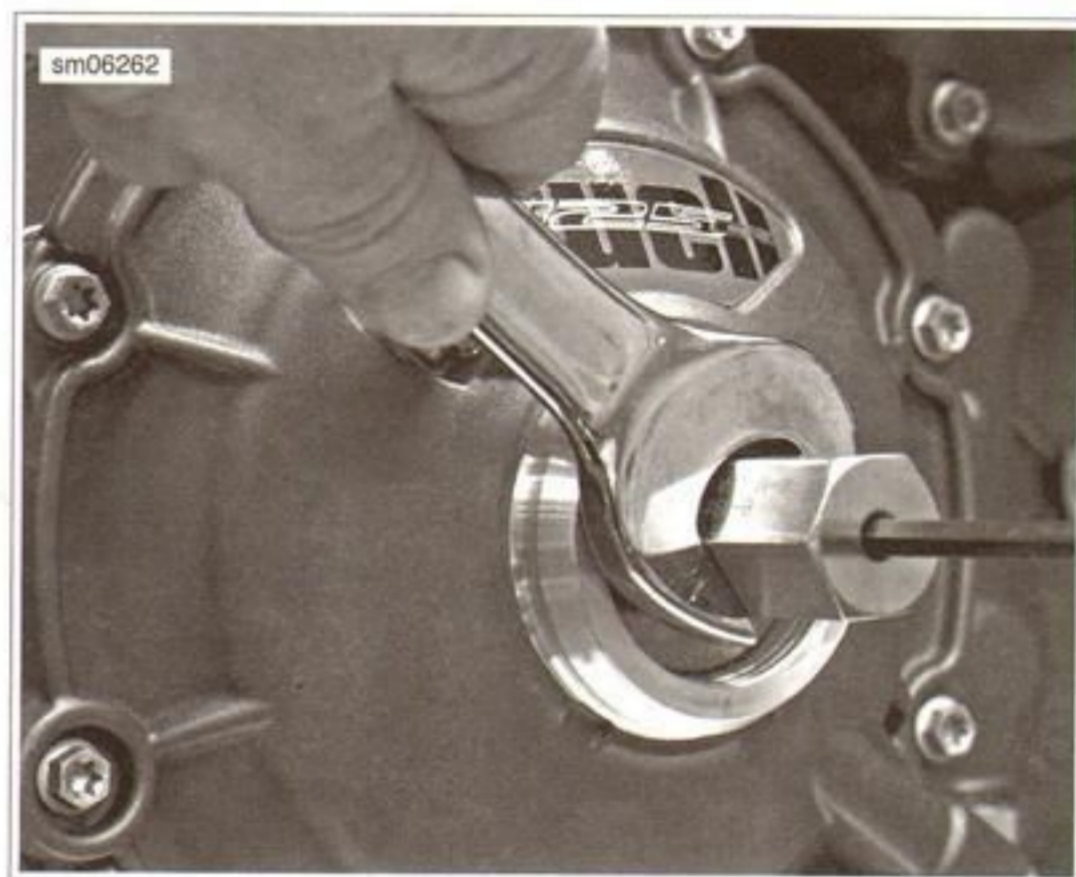

Figure 6-17. Removing Secondary Actuator Piston Spherical Nut
5. See Figure 6-17. Use a hex wrench to prevent the clutch release pin from rotating, and use the CLUTCH RELEASE TOOL (Part No. B-49125) to loosen the spherical nut.